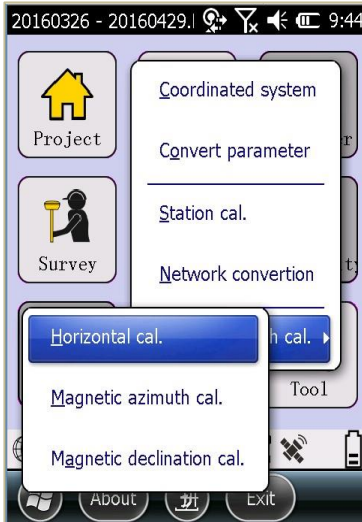

Fig 5-31
- ② Click [parameter] → [magnetic north cal.] → [horizontal cal.], and go into the interface “E-bubble calibration” as shown in the figure 5-31 and 5-32.